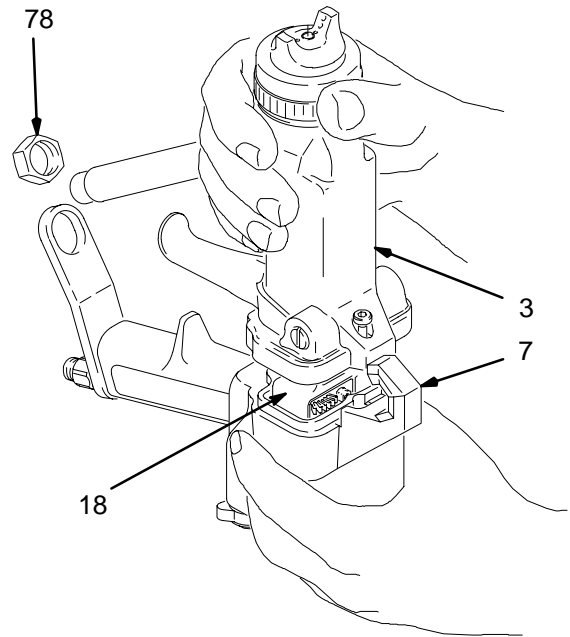
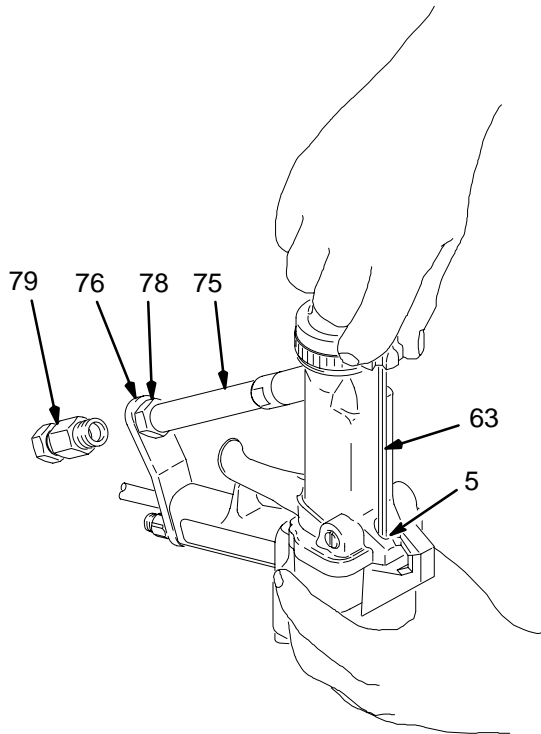

Fig. 26
Fig. 25
2. Loosen the nut (78) from the ferrule housing (79). Pull the ferrule housing through the gun bracket (76). See Fig. 25.
3. Loosen the three barrel screws (5) with the ball-end wrench (63).
4. Hold the gun handle (7) with one hand and pull the barrel (3) straight away from the handle to remove it. Be prepared to catch the nut (78). See Fig. 26.